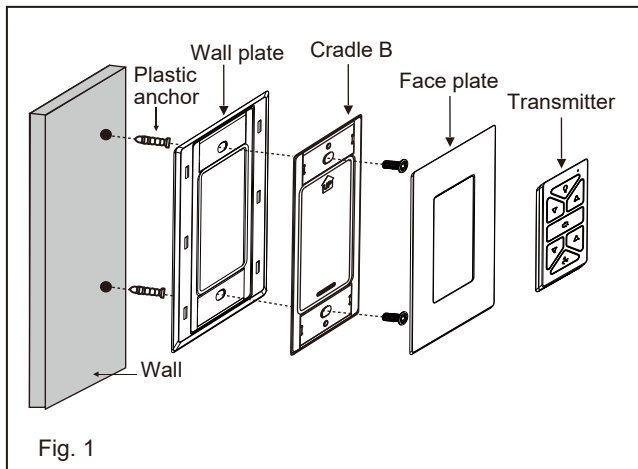

Fig. 1
- 1 Remove ball from downrod by loosening set screw in the side of the ball. Slide ball down and remove cross pin; remove ball. (Fig. 1)
1. Insert the receiver into the ceiling mounting bracket with the flat side of the receiver facing the ceiling. (Fig. 1) For best performance, make sure the Black Antenna and WIFI Antenna, on the end of the receiver, remains extended and not tangled with any of the electrical wires.
- 1 While holding the LED assembly under your fan, make the polarized plug connections: (Fig. 1)
- 2 Raise the LED assembly against the fan and turn clockwise until snug, DO NOT OVERTIGHTEN. (Fig. 1)
- 1 Select a desired location. Use the wall plate to mark the location of the mounting holes. Plastic wall anchors or mounting screws are needed for this application. (Fig. 1)
Remove the panel from the transmitter and then install one 2032 battery (included). You need to use a screwdriver to open or close the battery cover. To prevent damage to transmitter, remove the battery if not use for long periods of time (Fig. 1)